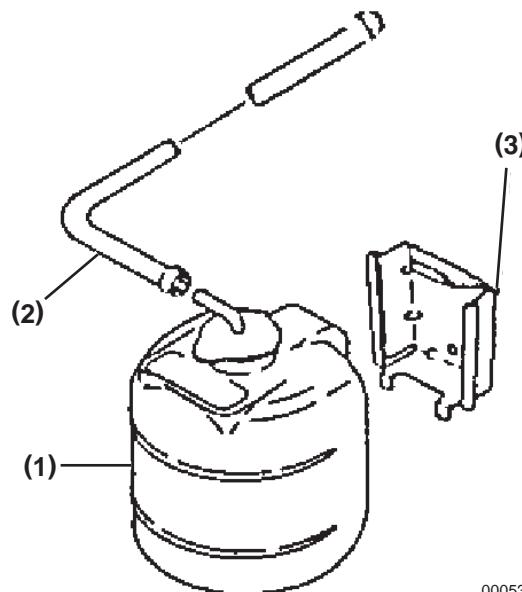

Figure 7-21
1. Check the fresh water level on the coolant recovery tank (Figure 7-21, (1)) daily. It is not required to remove the pressure cap.
2. Install the overflow pipe (Figure 7-21, (2)) with a maximum length of 1000 mm (39.3 in.). Avoid bending the pipe.
4. Periodically check the overflow pipe and mounting plate (Figure 7-21, (3)) for cracks and replace as needed. Check the pipe for obstructions and clean as needed. Also, check for disconnected or loose pipe joints. If the coolant recovery tank leaks air the coolant recovery tank will not function correctly.